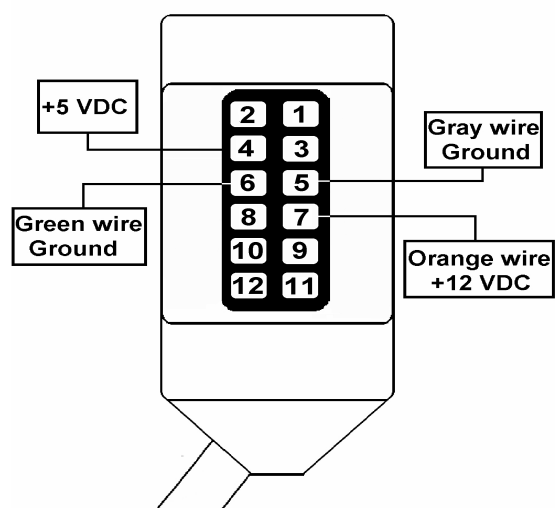

FIGURE 32 - TOUCHSCREEN CONNECTOR
7. Using a DVM in the resistance mode, check for continuity (resistance less than 2 ohms) between the metal game chassis and pin #8 of the Microtouch connector. See Figure 32 for location.